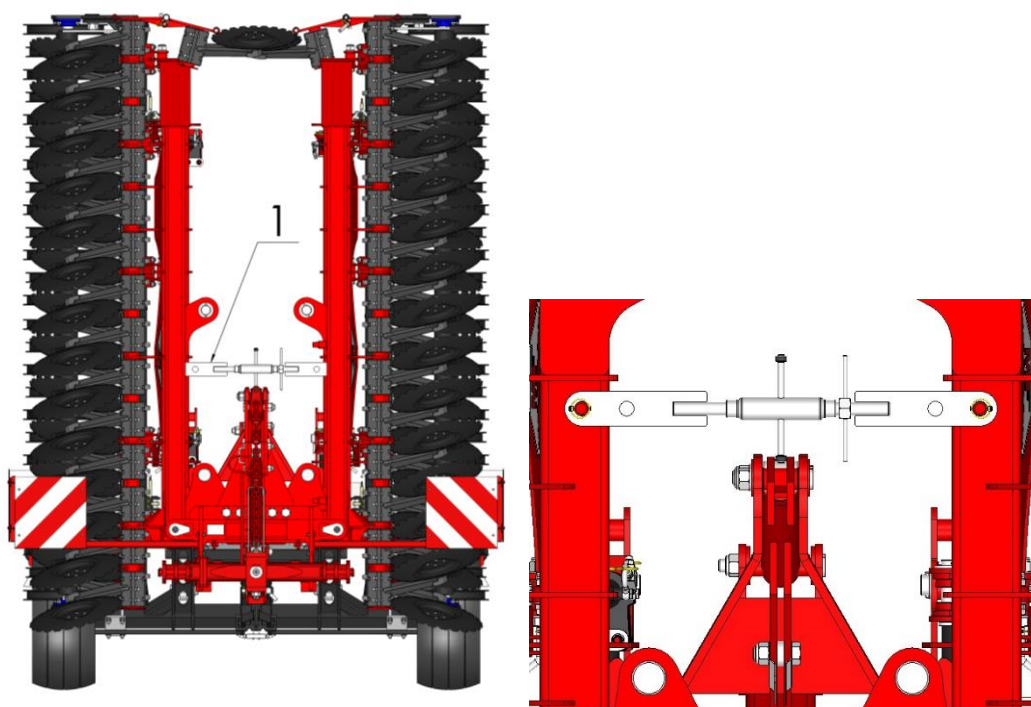

Fig. 4 Transport position with a connecting link
- fold the cultivator to the transport position and secure it with a protective link - Fig. 4;